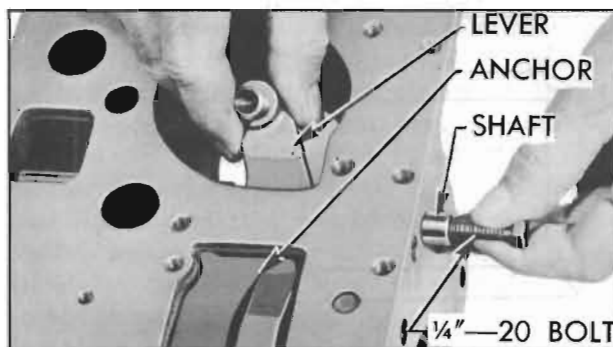

Figure 5-39—Removing Reverse Band Operating Lever and Shaft
4. Thread a  $\frac{1}{4}$ "-20 bolt into the reverse band anchor shaft to pull it from transmission case; then remove the operating lever. Rotate the reverse band until the anchor can be disengaged, then remove this part. See figure 5-39.